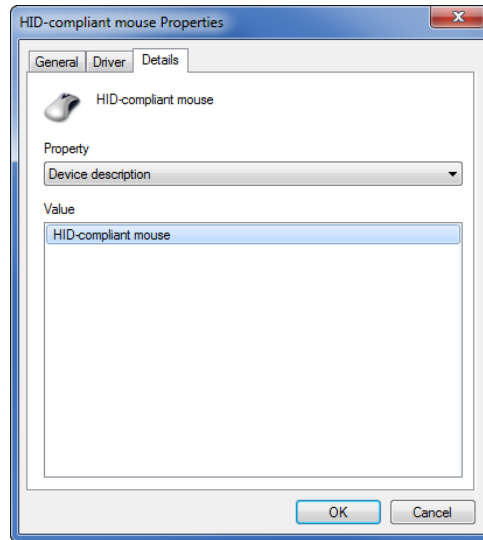

Figure 14. The HID-compliant Mouse Properties Dialog
1. Select the Details Tab (Figure 14).